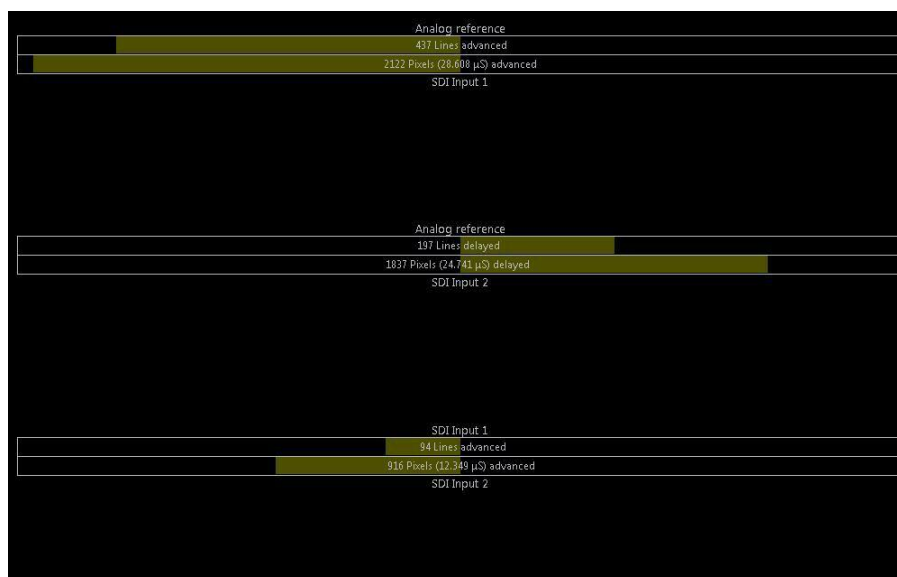

Figure 8: Reference Timing View on an OmniTek OTM or OTR.
*On the OmniTek OTM & OTR systems, the Reference Timing View used above automatically includes a third ‘meter’ which compares the timing of Input 1 against that for Input 2 (as shown in Figure 8).*